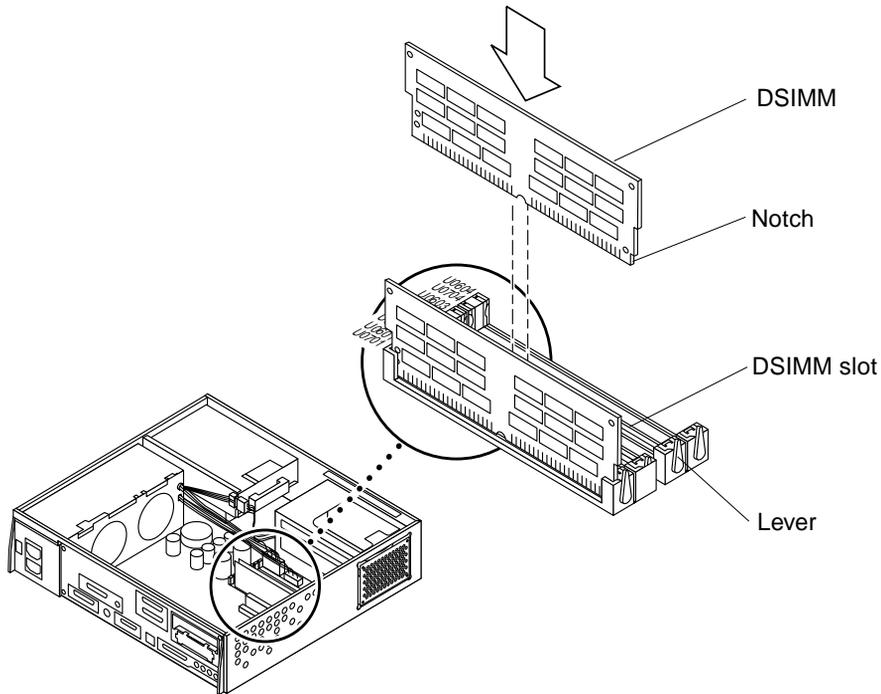

FIGURE 10-23 Installing a DSIMM
3. Install the DSIMM as follows (FIGURE 10-23):